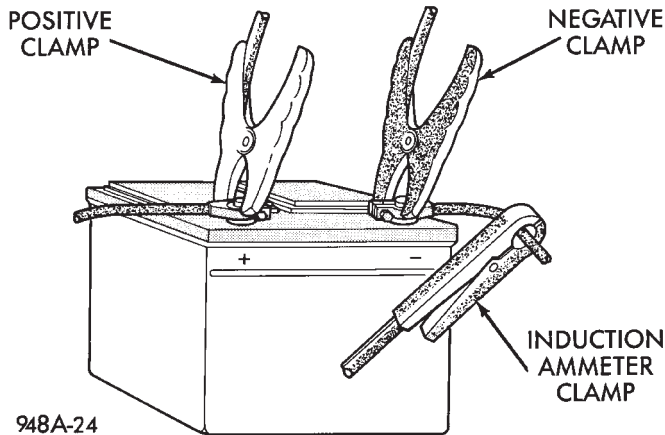

Fig. 1 Volts-Amps Tester Connections - Typical
(1) Connect a suitable volt-ampere tester to the battery terminals (Fig. 1). Refer to the operating instructions provided with the tester being used.